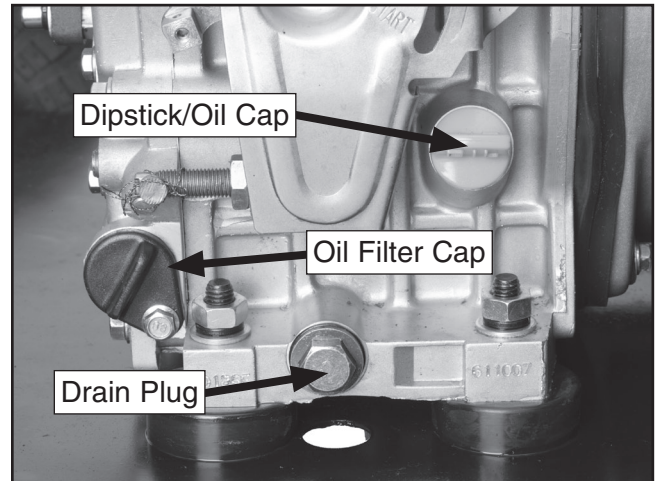

Figure 20. Components for oil and filter service.
3. Remove the drain plug and drain plug gasket on the side of the engine (**Figure 20**) and allow oil to drain through the hole in the frame into a catch basin.
5. Remove the bolt securing the oil filter cap (**Figure 20**).